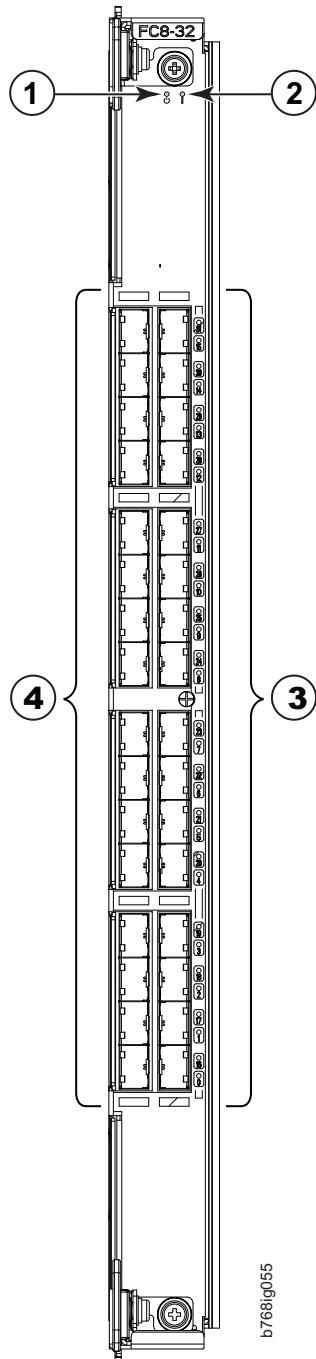

Figure 51. FC8-32 port blade
- Figure 51 on page 149 shows an FC8-32 port blade